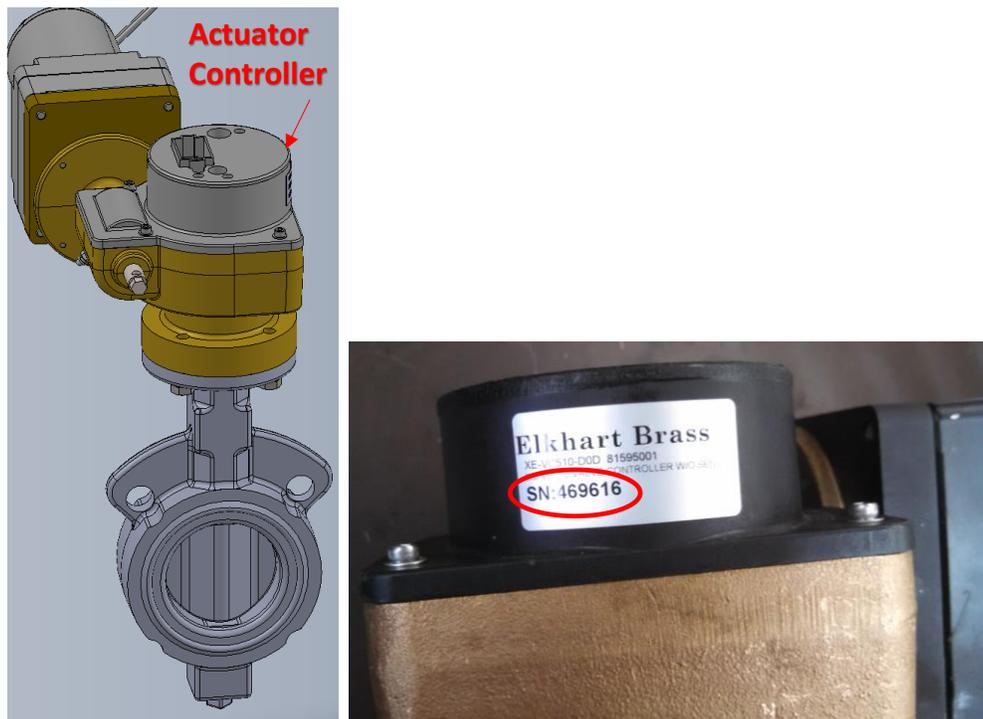
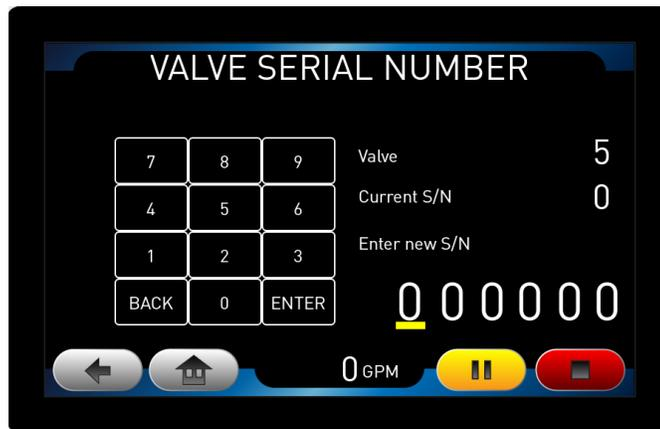

Figure 31: Valve Serial Number Location
Figure 37: Valve Serial Number Entry page
- Record the serial number of each valve and the number 1-9 to which it will be assigned (see previous bullet). The valve serial number is located on the valve actuator controller. See Figure 31.
- Serial Number** - Select the Serial No. field to enter the valve serial number. See Figure 37. The valve's serial number is found on a label on the electric actuator controller (See Figure 31). Once all digits are entered, push the **ENTER** button on the displayed keypad to save the new serial number. Use the  button to return to the Valve Setup page. Confirm that the Serial No. field shows the new serial number.